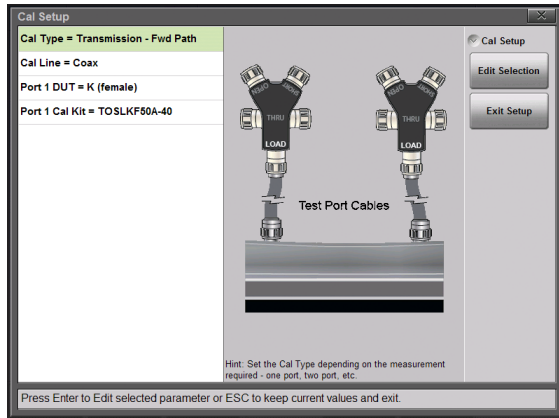
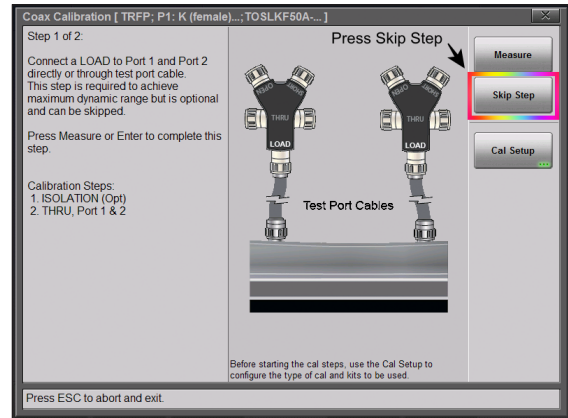
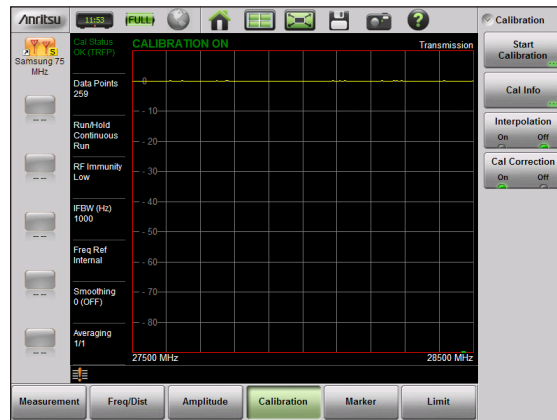

Figure 6. Cal Type
Figure 7. Skip Step
Figure 8. Normalized Transmission response
6. Once the antennas are properly aligned and stable, verify that the instrument is displaying a transmission measurement trace then go to the Calibration menu and set the Cal Type to TRFP: Transmission – Fwd Path (Figure 6). Since only a transmission calibration is being performed, no other cal components are needed and the calibration can begin. Skip Step 1 of 2 (Isolation) (Figure 7) that appears in the calibration menu, then press the Measure button to complete Step 2 of 2. When the “Thru” sweep from Step 2 is completed, press the Apply button to apply the calibration. The Microwave Site Master S820E instrument should now be sweeping with a normalized amplitude response trace positioned at 0 dB (Figure 8).